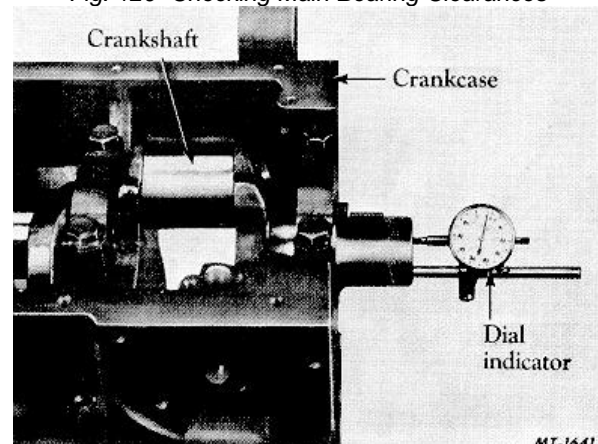

Fig. 121 Checking Crankshaft End Play
6. If the bearing clearance is not within specifications, the crankshaft must be reground and undersize bearings installed. The third crankshaft bearing controls the crankshaft thrust and provides initial location of the crankshaft in relation to the crankcase. Use dial indicator, Fig. 121, to check end play.